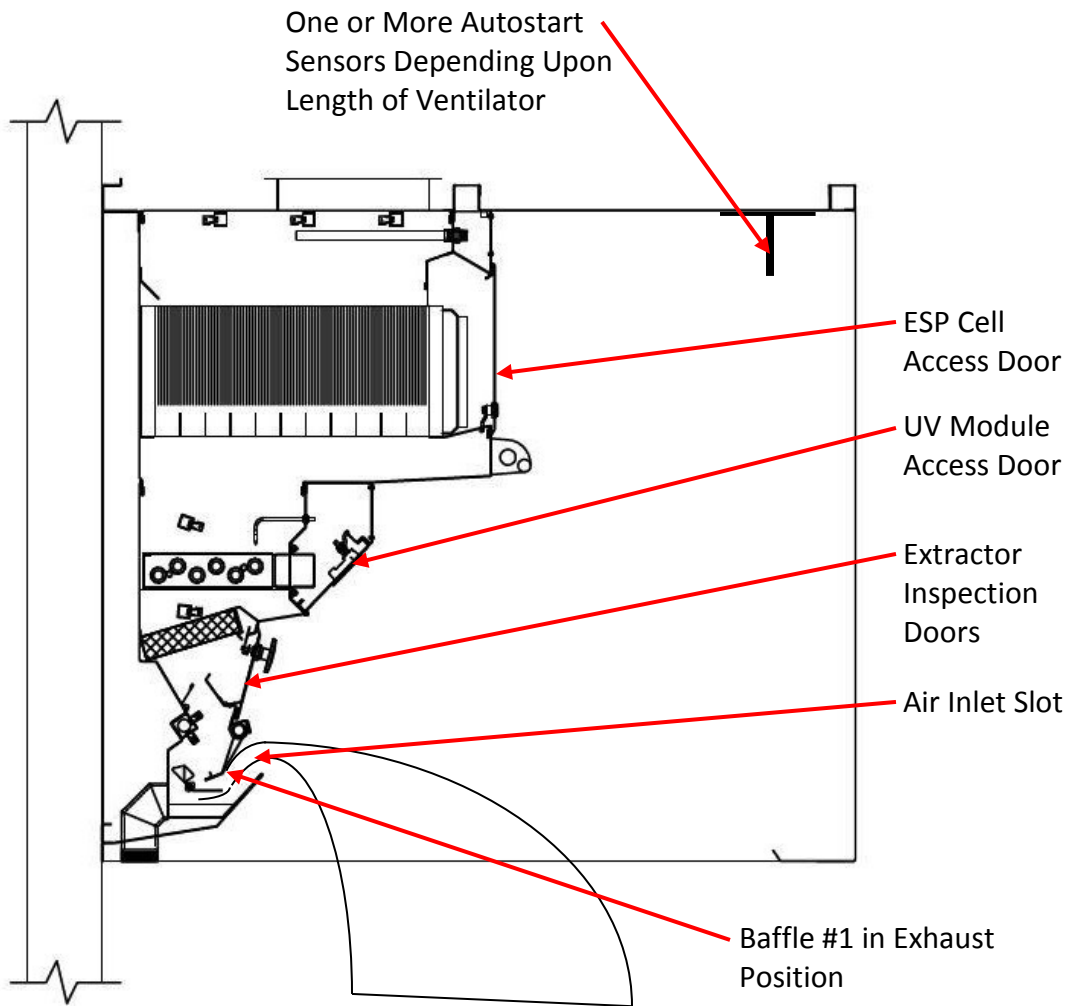

Figure 3-3-1
3. After baffle #1 fully opens (elapsed time approximately 45 seconds), the exhaust fan comes on (Refer to Figure 3-3-1). **Important Note:** Refer to your Command Center Technical Manual for specific text displayed after baffle #1 opens.
Note 1: Typically CG3-UVi-SPC Series Ventilators installed in the United States are equipped with a Gaylord Autostart Controller that automatically turns on the exhaust fan if the temperature at the sensors mounted in the canopy exceeds 90°F. (Refer to Figure 3-3-1). In some instances Ventilators installed outside the United States will include an Autostart Control. Inclusion of an Autostart Control is designated by the suffix “**AS**” in the model number. The Ventilator model number can be found on the Ventilator Nameplate (Refer to Appendix “A” for a sample of the Nameplate). Refer to your Command Center Technical Manual for complete information on the Autostart Control.